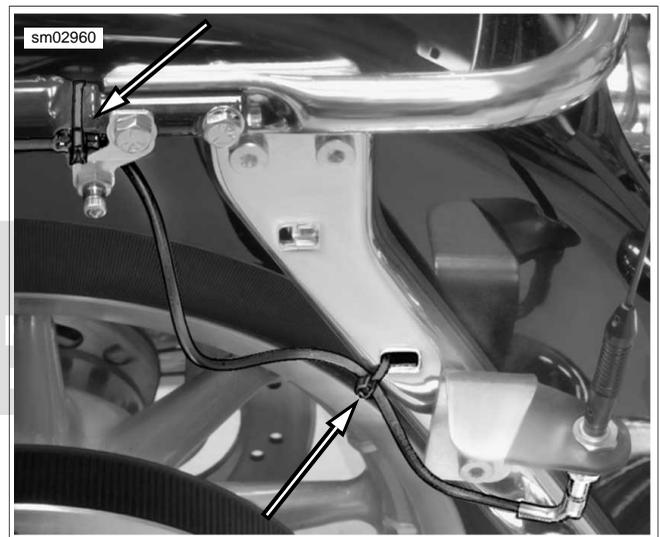
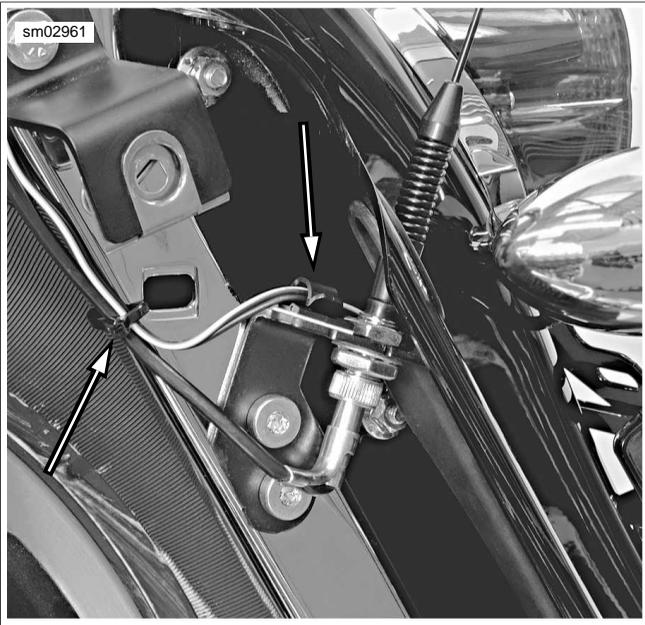

Figure 8-121. Capture Radio Antenna Cable (FLTR)
Figure 8-122. Capture Radio Antenna Cable (FLHX)
11. Carefully cut cable strap to release radio antenna cable from shoulder of upper frame tube (just in front of air valve mounting bracket). Cut cable strap to release radio antenna cable from slotted hole in rear fender support. See Figure 8-121.
6. Install **new** cable strap to secure radio antenna cable (and rear facia lamp wires on FLHX) to shoulder of left upper frame tube (just in front of rear shock air valve mounting bracket). Using slotted hole, install **new** cable strap to secure radio antenna cable (and rear facia lamp wires on FLHX) to rear fender support. See Figure 8-121 or Figure 8-122.